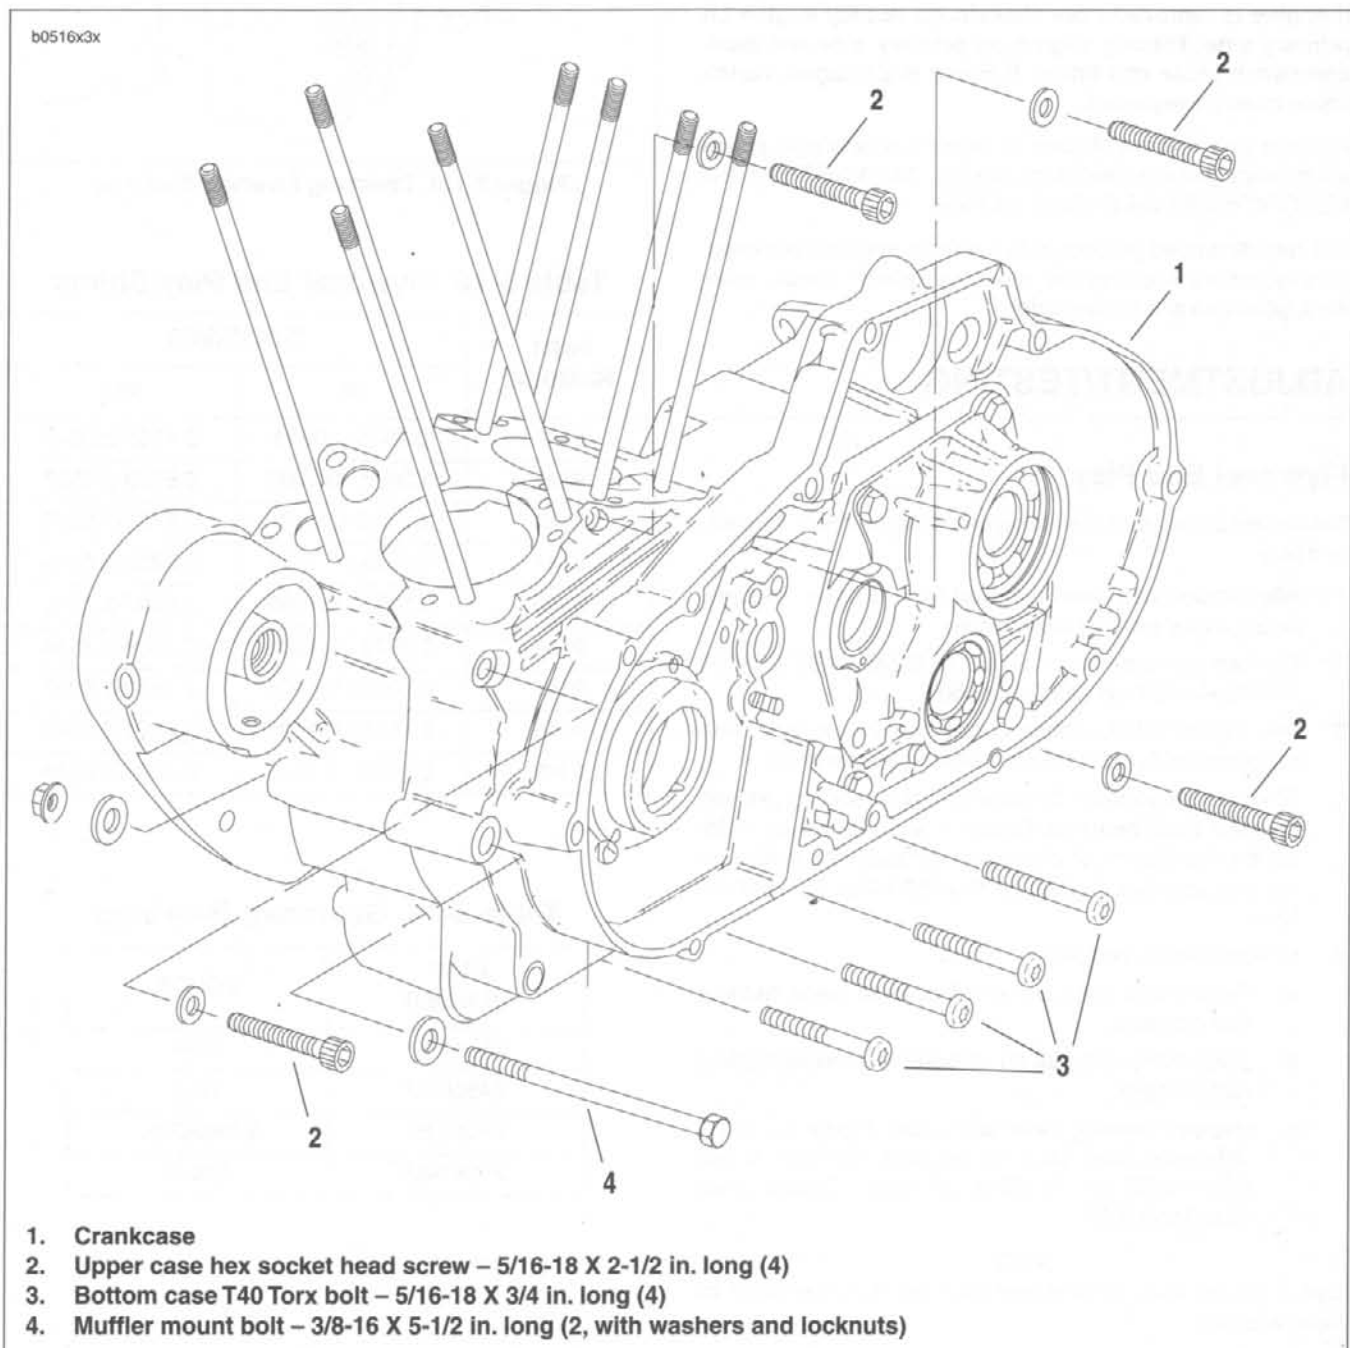

Figure 3-125. Crankcase Hardware (Typical)
8. See Figure 3-125. Remove screws and rear engine mount bolt securing crankcase halves together.